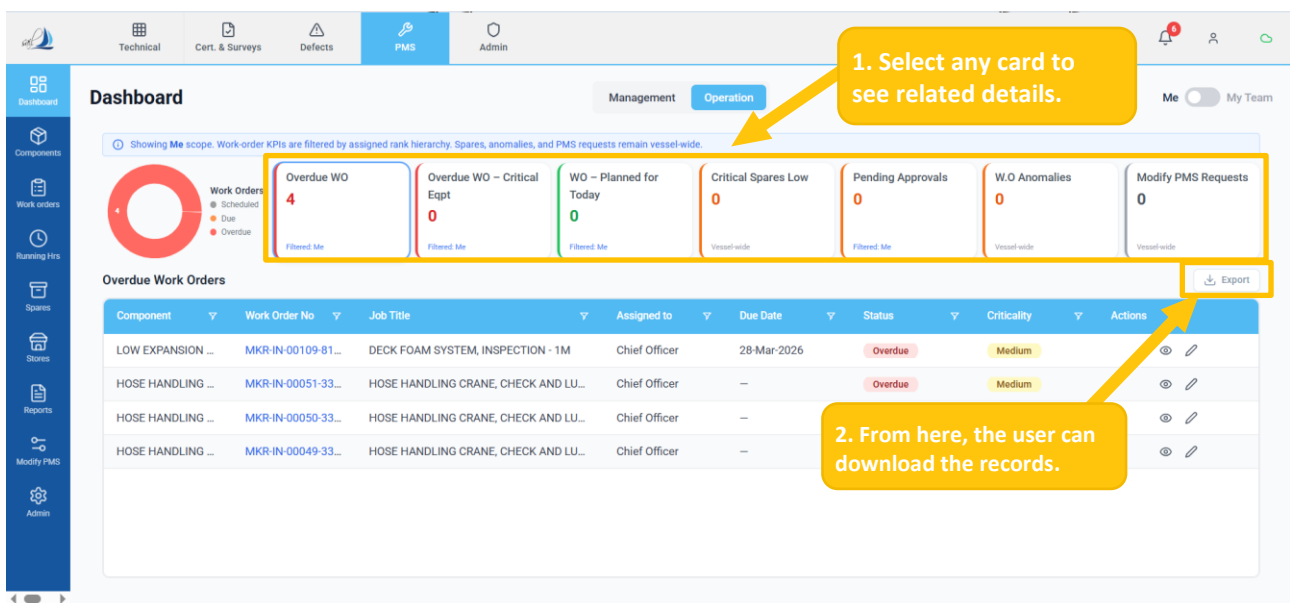

Figure 12
- Click any KPI card to display related details (work orders, inventory alerts, approvals, anomalies, and PMS requests) in the table below. (Ref Figure 12)
- Click the 'Export' button to download the records. (Ref Figure 12)